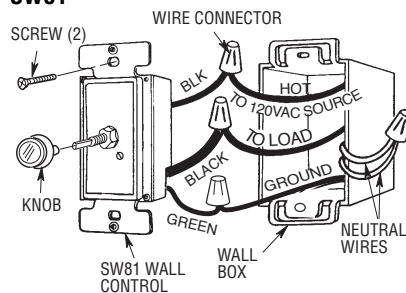

Figure 3
6. Securely connect one BLACK control wire to the (BLACK or RED) load wire from the ceiling fans with a wire connector (supplied) (Figure 3).
9. Carefully install the SW81 wall control into the electrical switch box using the installation screws supplied. Do not install the cover plate. Reinstall the knob to the wall control (Figure 3).